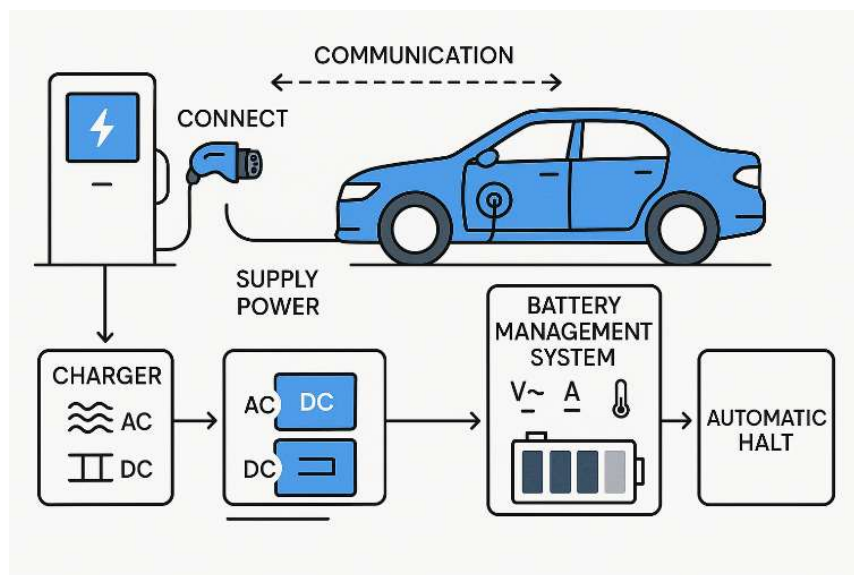

Fig. 3.17: Working process of EV charging system
Electric Vehicles (EVs) connect to charging stations using appropriate connectors, which facilitate the flow of electricity. To ensure compatibility and safety, the charging station communicates with the vehicle before initiating the charging process. Once compatibility is confirmed, the station begins supplying power, which can be either alternating current (AC) or direct current (DC), as shown in Fig. 3.17.